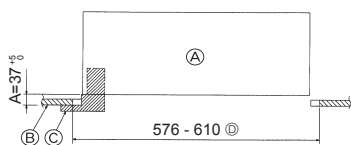

Fig. 6-2
②	Screw with washer	4	M5 × 0.8 × 28 (mm)
③	Gauge	1
④	Junction wire for signal receiver	1	Included when equipped with the signal receiver.
⑤	Junction wire for i-See sensor	1	Included when equipped with the i-See sensor.
⑥	Fastener	2	Included when equipped with the signal receiver.
⑦	Fastener	2	Included when equipped with the i-See sensor.
⑧	Wireless remote controller	1	Included when equipped with the wireless remote controller.
⑨	Remote controller holder	1	Included when equipped with the wireless remote controller.
⑩	LR6 AA batteries	2	Included when equipped with the wireless remote controller.
⑪	3.5 × 16 tapping screws	2	Included when equipped with the wireless remote controller.
6.2. Preparing to attach the grille (Fig. 6-2)